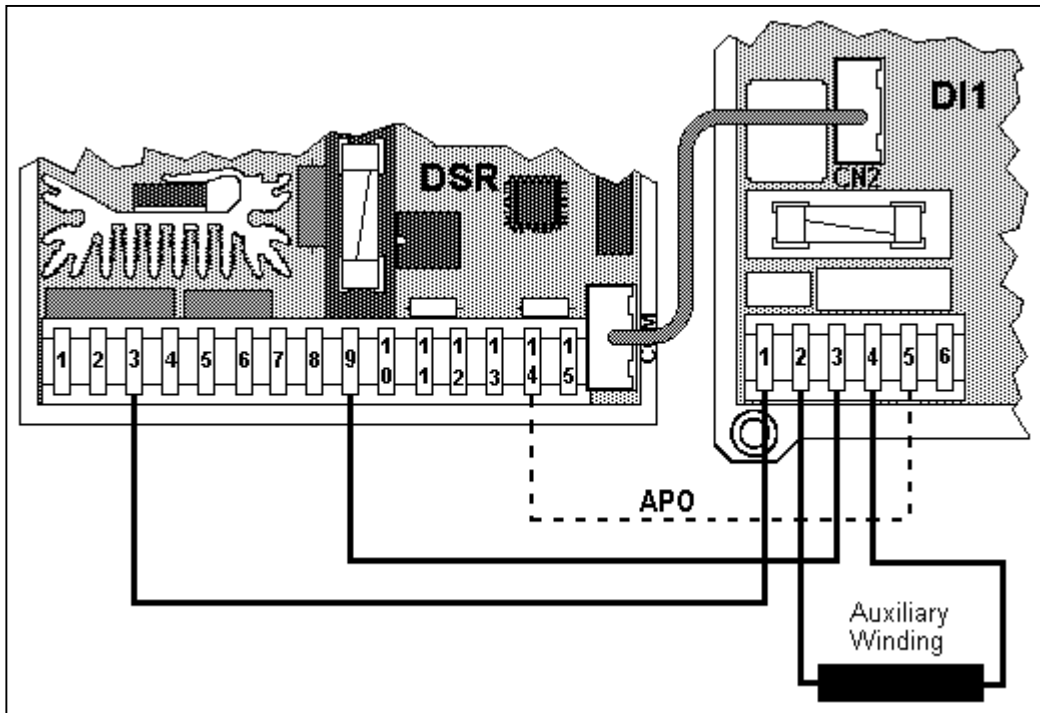

fig. 11: Example of power and connection (optional) of APO signal
The DI1 interface also permits isolation of the A.P.O. contact of the regulator : terminal 14 of the DSR must be connected to terminal 5 of CN1 (as indicated with the dotted line in fig. 11).
- 1) On connector CN1 (terminals 1-2 and 3-4) through the same power as the DSR; for this purpose, the power terminals on CN1 have been duplicated (Fig. 11)